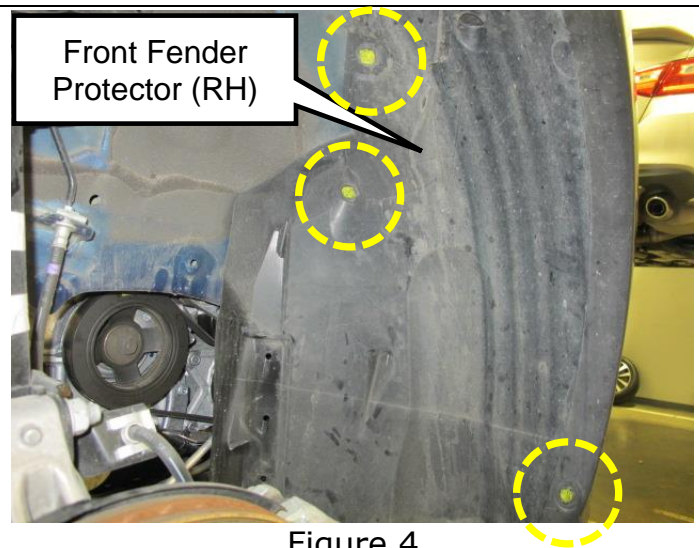

Figure 4
4. Remove (3) wheel liner clips from front fender protector (RH).
- Clips are highlighted in yellow in Figure 4